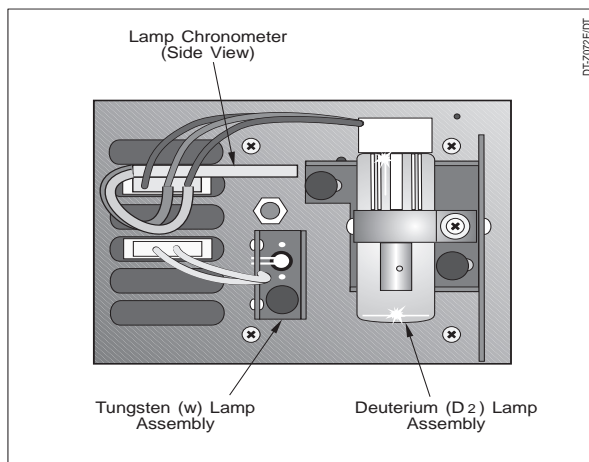

Figure 21 Deuterium (D2) Lamp Chronometer, D2 and Tungsten (W) Lamp Assemblies
2. Remove the lamp enclosure by loosening the thumbscrew and pulling the cover away to expose the lamp, see Figure 21).